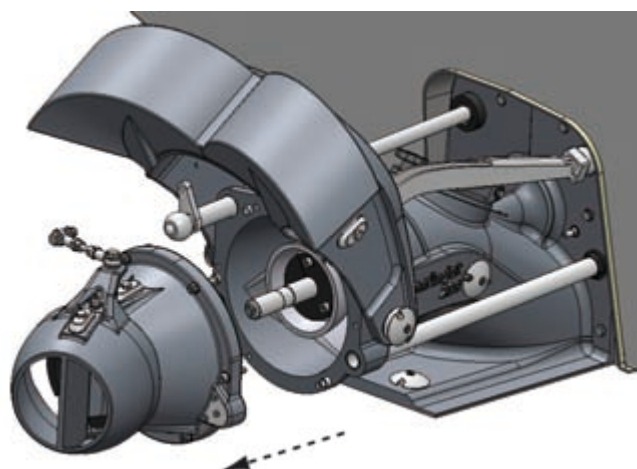

Figure 32. Removing the stator and the steering nozzle
3. Remove the stator and the steering nozzle as a complete unit (figure 32).